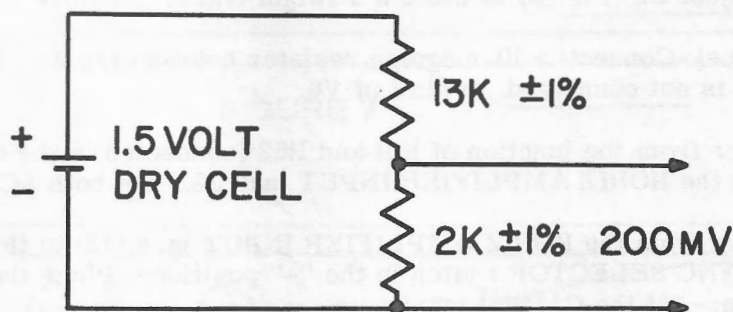

FIGURE 10
- g. Adjust R96 (Fig. 8) until the vertical line is 4 cm (4 major divisions) high. This completes the calibration voltage adjustment for a basic sensitivity of 50 mV/cm. Although the method calibration given here is convenient, it does not yield the maximum possible accuracy because the voltage divider is at the .5 position, which might introduce a possible 5% error (because of the resistors in the attenuator network). A more accurate calibration technique is to use an accurate source of 200 mV to do this calibration. A suggested source for obtaining the required 200 mV is shown in Fig. 10.